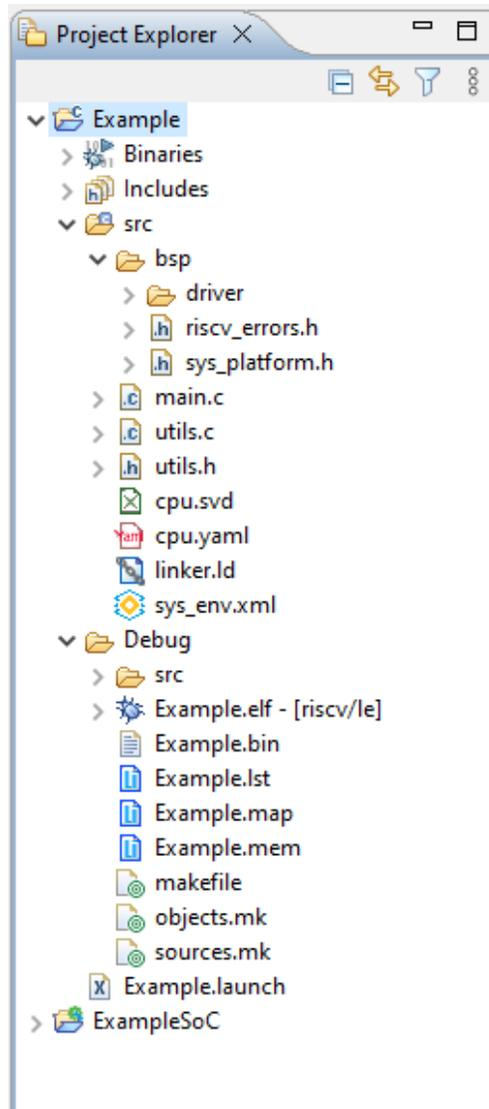

Figure 3.27. Contents of C/C++ Project
After building the project, the build output can be found in each build configuration folder, the **Debug** folder or the **Release** folder (Figure 3.27). The Debug or Release folder contains:
**Note:** Some of the files listed in Figure 3.27 are intermediate files that you do not need to take care of.